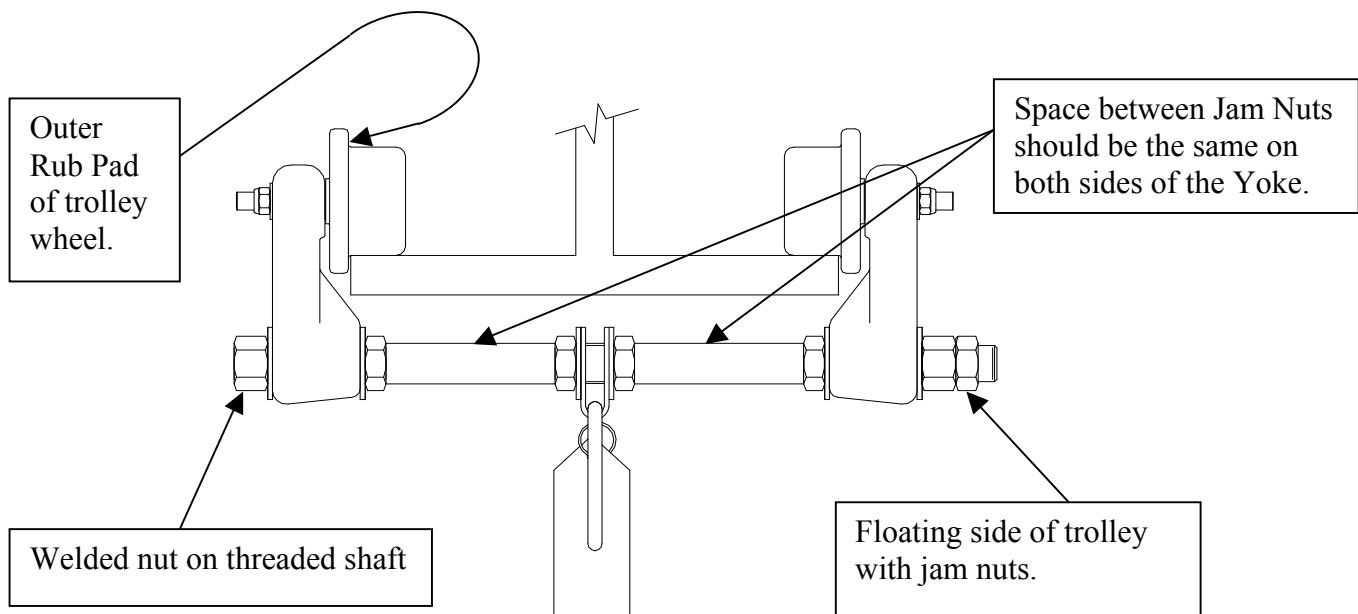

Figure 3 Identification of the “Floating” side of the Trolley
2. Loosen both the jam nut and the outer nut on the floating side of the Beam Trolley to fit over the flange (see Figure 3).
5. Adjust the inner nut of the floating side of the trolley so that the outer rub pad of the wheel is approx. 1/16-in. but not more than 1/8-in. from the edge of the beam flange (see Figure 3).